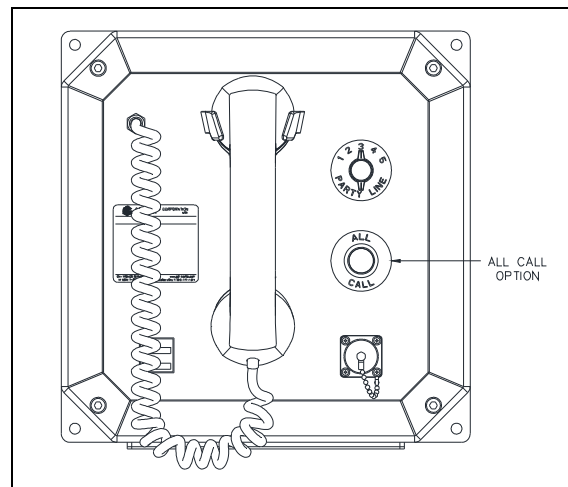
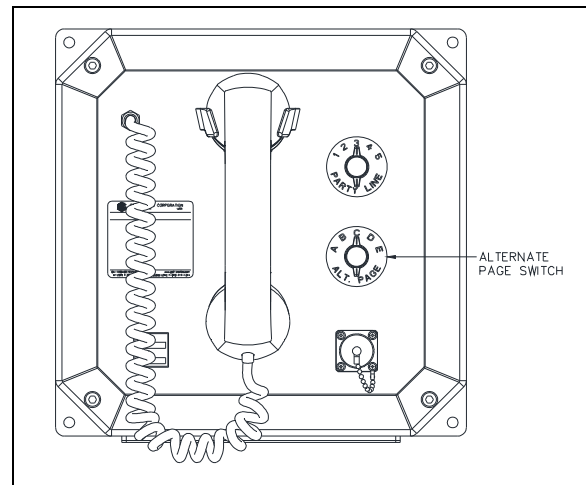

Figure 14. All-Call Option Location
Figure 15. Alternate Page Switch Location
Use the ALL-CALL button to page an alternate destination that is programmed for the station (see Figure 14). The ALL-CALL option must be software configured for the SP2 station. To initiate a page using the ALL-CALL feature:
Use the ALT-PAGE selector switch to page one of five alternate destinations programmed for the station (see Figure 15). Alternate page destinations must be software configured for SP2 stations. To initiate a page using the ALT-PAGE selector switch:
1. Attach the headset assembly to the auxiliary jack on the station (see Figure 14 or Figure 15).